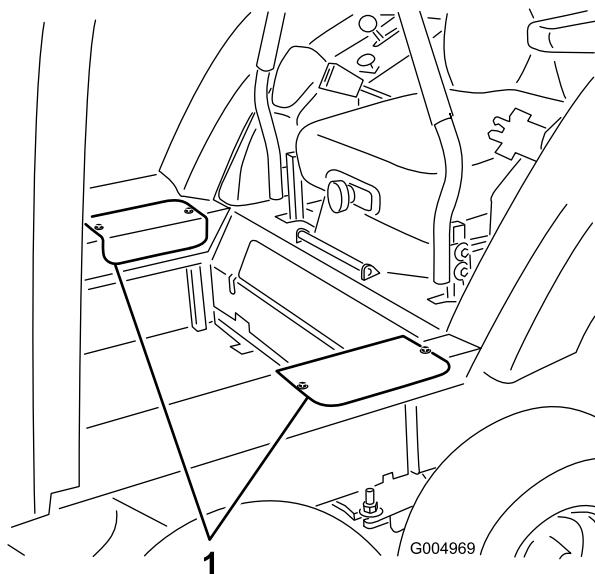

Figure 133
2. Remove the two screws securing each side access cover and remove the covers (Figure 133).